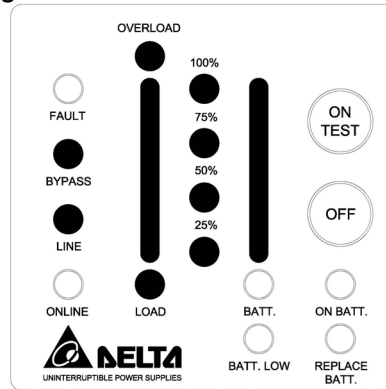

Fig 4-5 Overload and UPS turn into Bypass
- ✓ **OVERLOAD:** If the load exceeds the UPS rating, after a limited period, the overload LED will light on and buzzer continuous beeping to alarm the user. The user should unplug some uncritical loads to release the overload condition. Shown as fig 4-5.